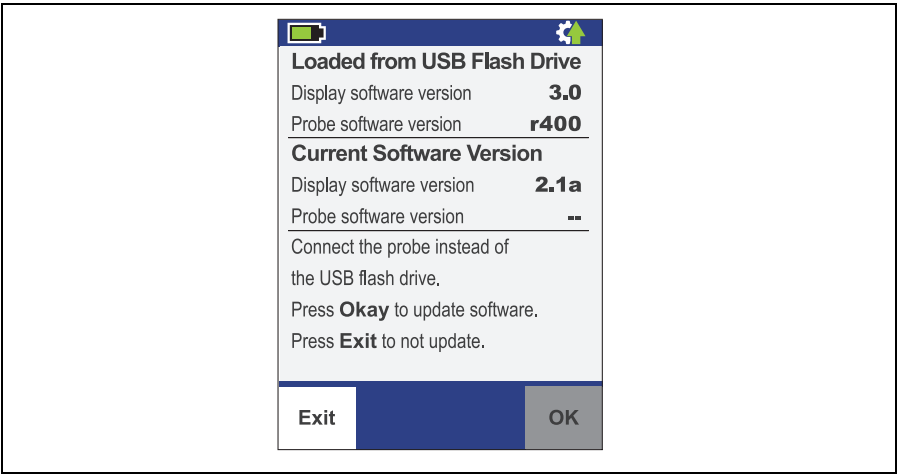

Figure 7. Software Update Screen with the USB Drive Connected
- 2 Connect the drive to the display. The software update icon shows in the status bar, and the display imports the upgrade file. The screen shows the software versions loaded from the USB flash drive (Figure 7).